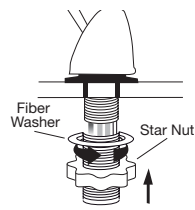

Figure 2
- From under sink, slide 2 1/4" fiber washer over faucet base. Reinstall threaded extension onto the base until snug. Thread star nut onto extension until snug (See Figure 2).